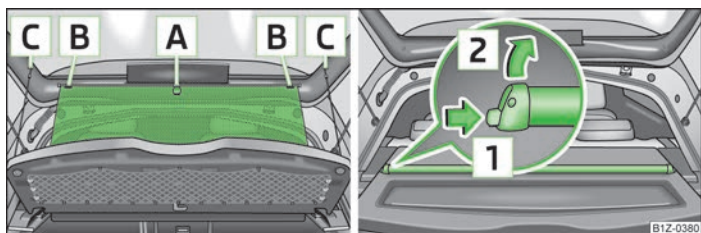

Fig. 34 Sun screen: unroll/remove
- Remove the sun screen using the loop **A** and hang it from brackets **B** » Fig. 34.
- Remove the sun screen from the brackets **B** » Fig. 34 and hold it on the loop **A** so that it can slowly roll up into the housing on the luggage compartment cover without being damaged.
- Unhook the support straps **C** from the boot cover » Fig. 34.